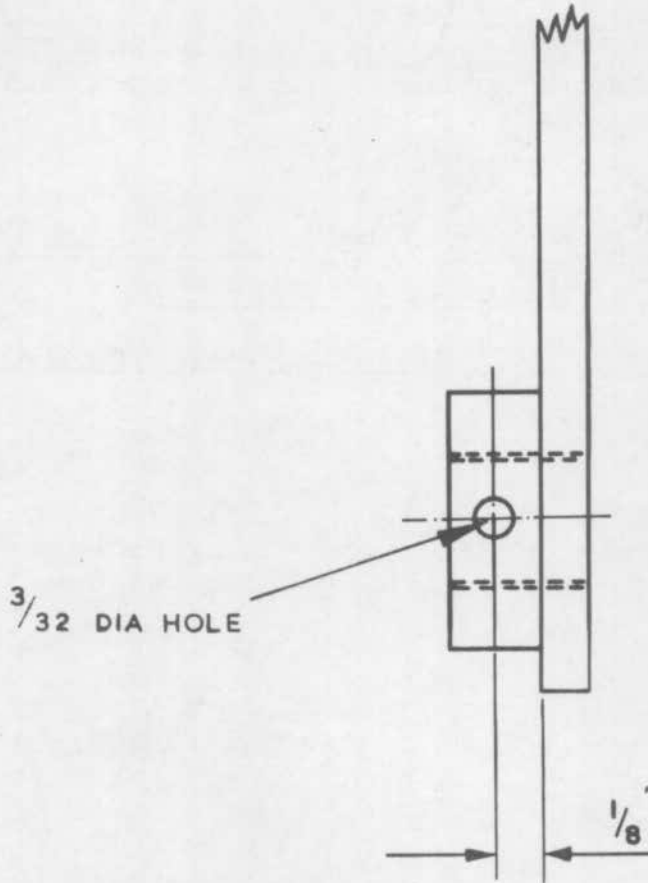

Fig 1. Position of hole in pivot bolt boss
b. Drill a 3/32 in. dia hole through pivot bolt boss, as detailed in Fig 1 and fit spring pin detailed in para 4.